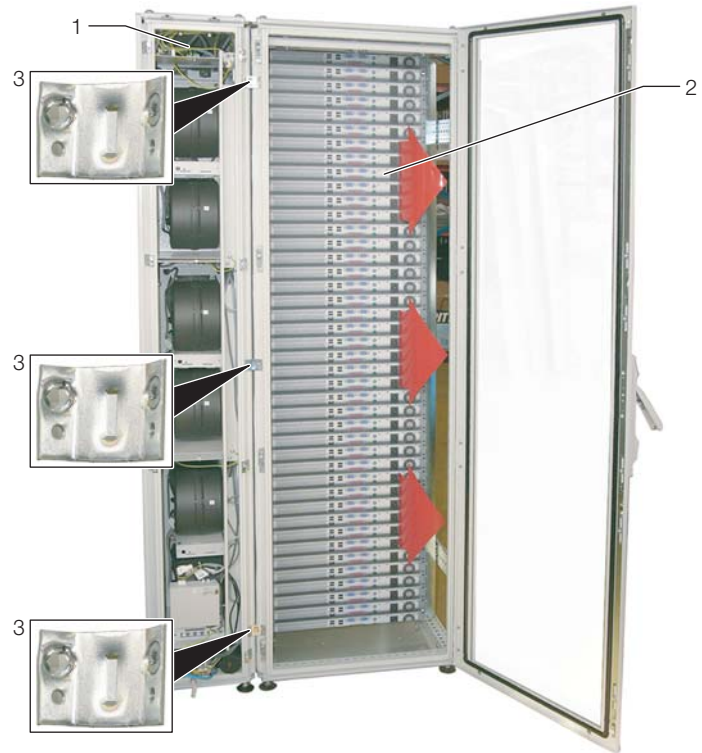

Fig. 23: Liquid Cooling Package Plus on a server enclosure - rear
- Using assembly screws, fasten three baying connectors each (Fig. 23, item 3) onto the intended attachment points in the frame on the front and rear sides of the Liquid Cooling Package Plus (Fig. 23, item 1).
- Using the corresponding assembly screws, fasten the baying connectors (Fig. 23, item 3) onto the intended attachment points in the frame on the front and rear sides of the server enclosure (Fig. 23, item 2). As needed, press the Liquid Cooling Package Plus lightly against the server enclosure in order to bring the baying connectors into alignment with the attachment points.